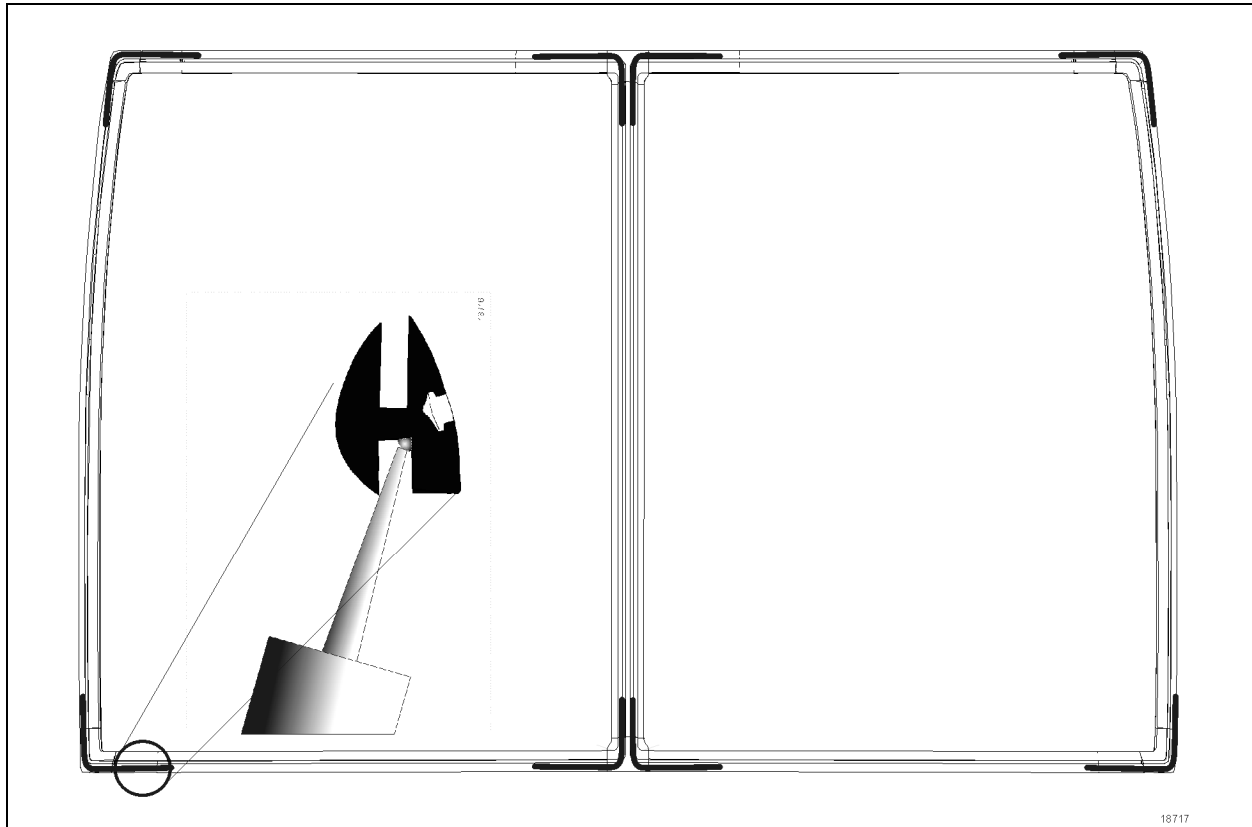

FIGURE 20: APPLICATION OF BLACK ADHESIVE
2. Apply a 1/8" bead of black Simson adhesive #684685 to all four corner of the gasket in the groove outside corner as illustrated in Figure 20. Do this *before* placing gasket on vehicle structure to control quality and continuity of bead. This method helps achieve a watertight installation.